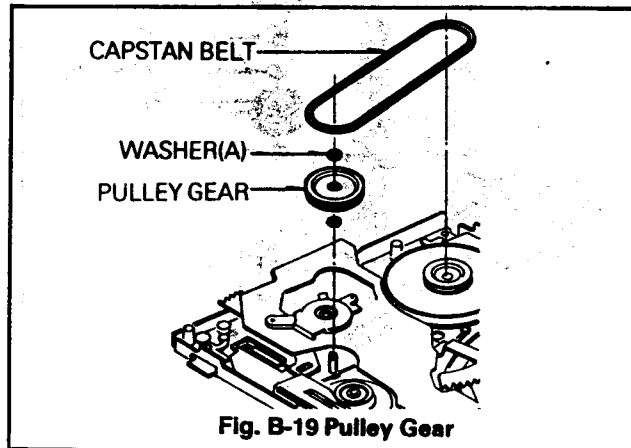

Fig. B-19 Pulley Gear
- 1) After removing the Supply Reel and supply Main Brake Assembly, remove the washer(C) and then remove the Idler Gear(A).
- 2) Remove the Washer(D) and remove the Idler Gear(B).
19. Pulley Gear Assembly(Fig. B-19)